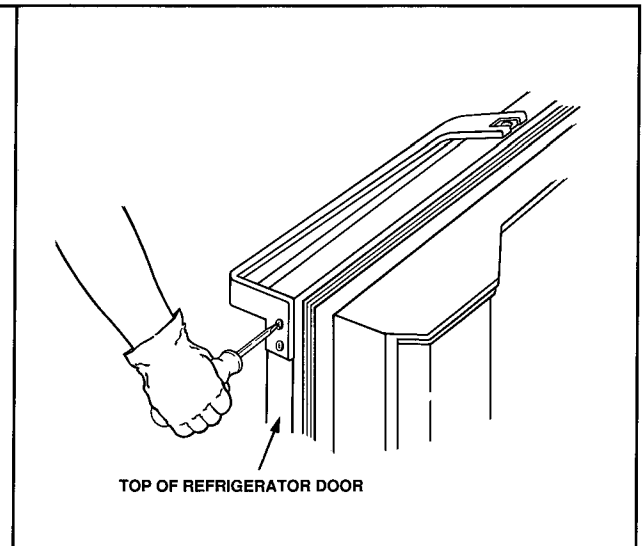

Figure 66
- a. Use flat screwdriver and pry up door handle side screw cover. See Figure 66.